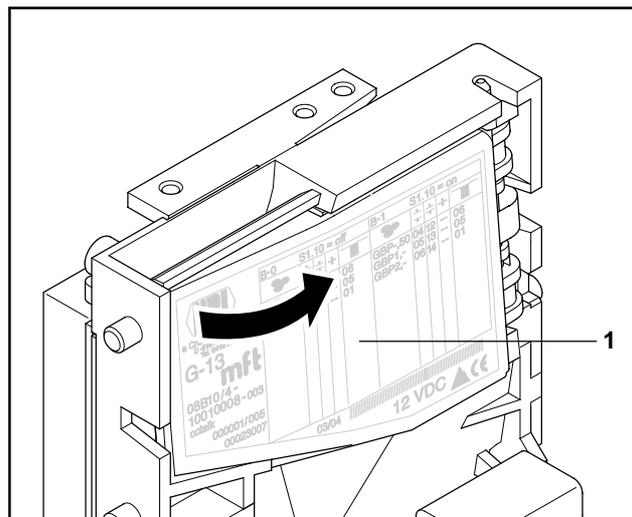

Fig. 7: Open the flight deck of the coin validator.
- 2** Carefully open the flight deck **1** on the left-hand side and hold it open (Fig. 7).